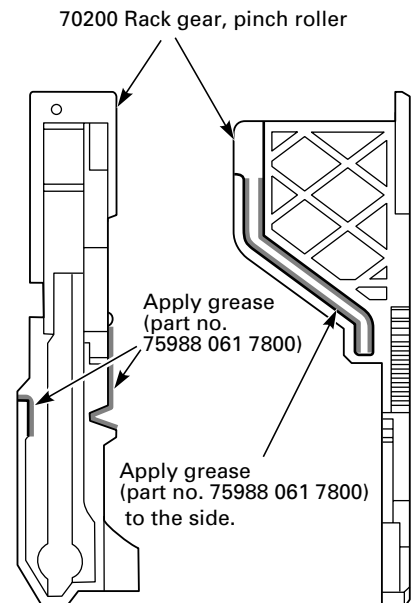
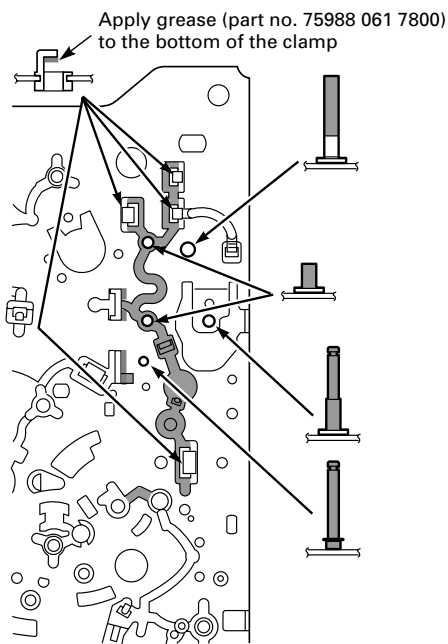

Fig. 8.32
Fig. 8.35
- Always use the grease with part number **75988 061 7800** for lubricating the mechanical parts of the threading roller units and follow the lubrication instructions given in Fig. 8.32 – Fig. 8.35